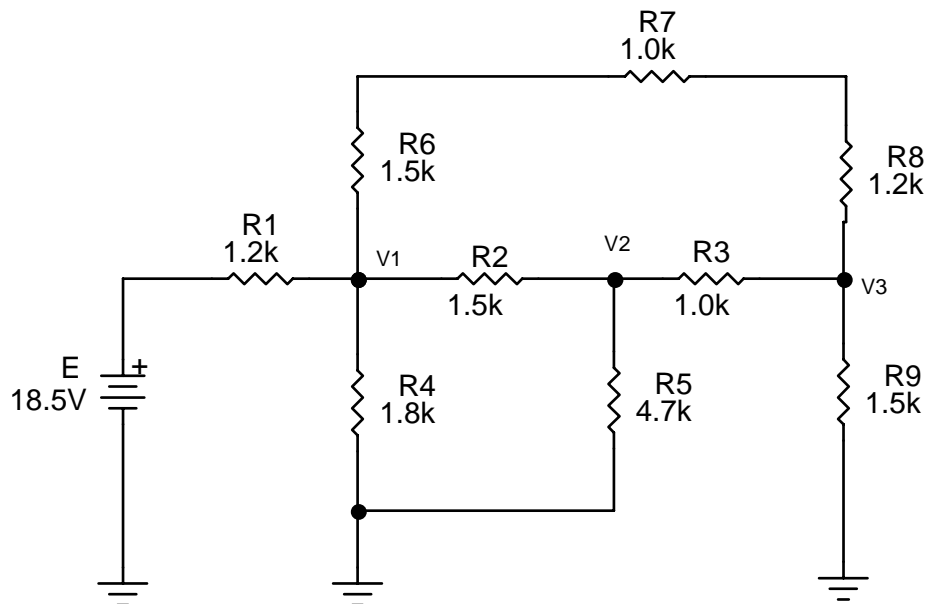

Figure 2. Nodal Analysis Circuit 2.
- 5.) Connect the circuit shown in Figure 2 and measure the voltages V1, V2 and V3. Record these values in Table 4.